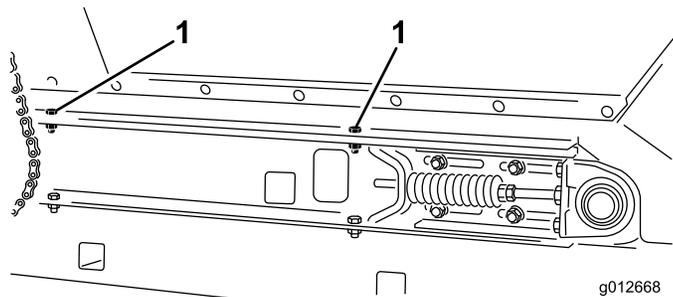

**Figure 22**
- 3. Loosen jam nuts and nuts on tension rod to release spring tension (Figure 22).